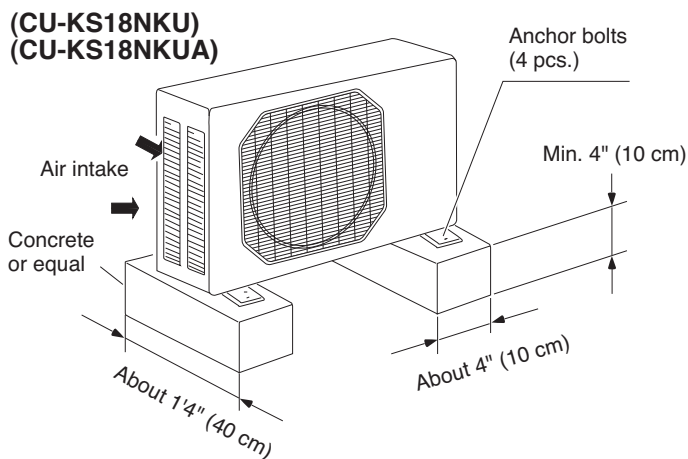

Fig. 5c
- provide a solid base (level concrete pad, concrete block, 4" × 1'4" (10 × 40 cm) or 6" × 1'4" (15 × 40 cm) beams or equal), a minimum of 4" (10 cm) or 6" (15 cm) above ground level to reduce humidity and protect the unit against possible water damage and decreased service life. (Fig. 5c or 5d)